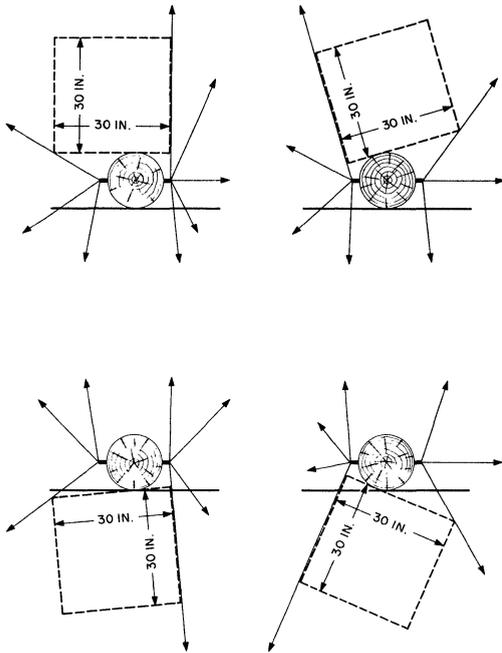

Fig. 4—Climbing Space When Drops are Attached Directly to Pole
3.05 When drop wire attachments are made directly to a joint use pole, distribute from the face or back of the pole (Fig. 4).